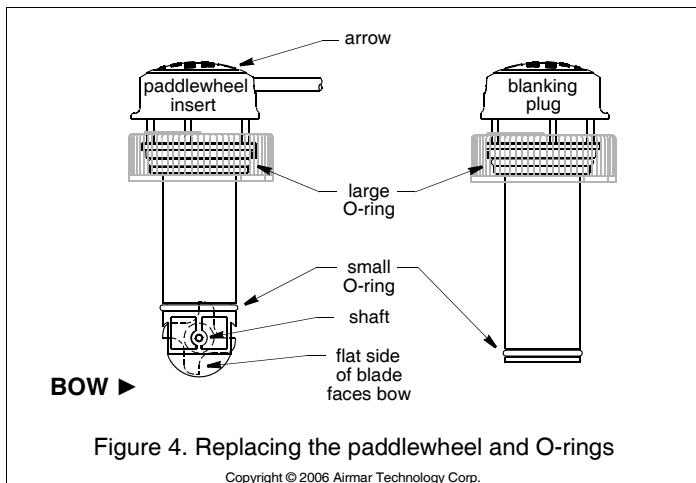

Figure 4. Replacing the paddlewheel and O-rings
1. The O-rings must be intact and well lubricated to make a watertight seal. On the blanking plug, inspect the O-rings (replace if necessary) and lubricate them with the silicone lubricant supplied or petroleum jelly (Vaseline®) (see Figure 4).
1. Using the new shaft, push the old shaft out about 6mm (1/4"). With pliers, remove the old shaft (see Figure 4).